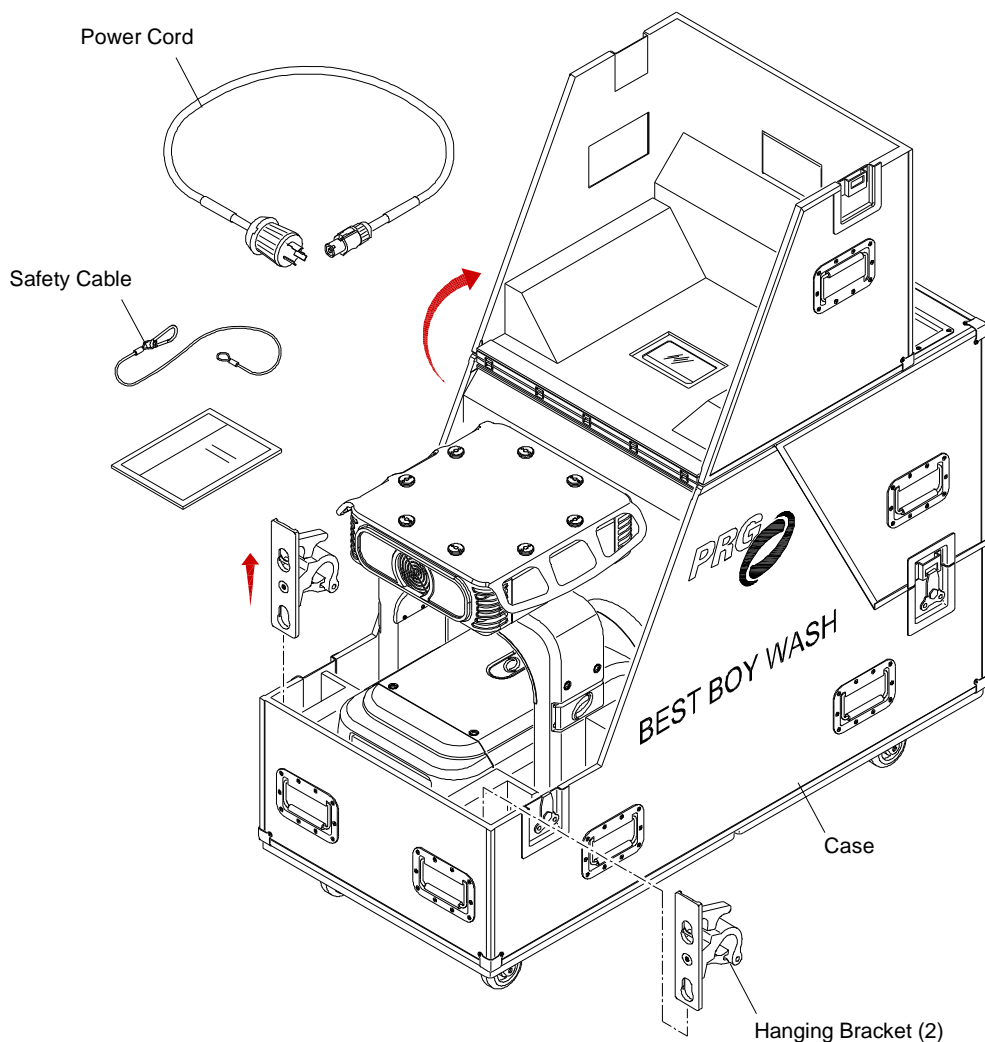

Figure 2-2: Unpacking Road Case
- Step 1. Unlatch case lid and tilt upward as shown in **Figure 2-2**.
- Step 1. Unpack case as shown in **Figure 2-2** on **page 13**, but do not remove hanging brackets. (These are not used for standing installations.)